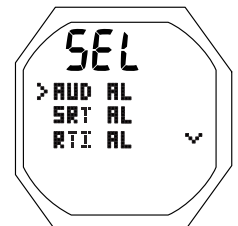

Fig. 132 - SET ALARMS MENU
- S (< 2 sec) - to access the selection indicated by the pointer icon (>). Example, to access Set Audible (Fig. 132).